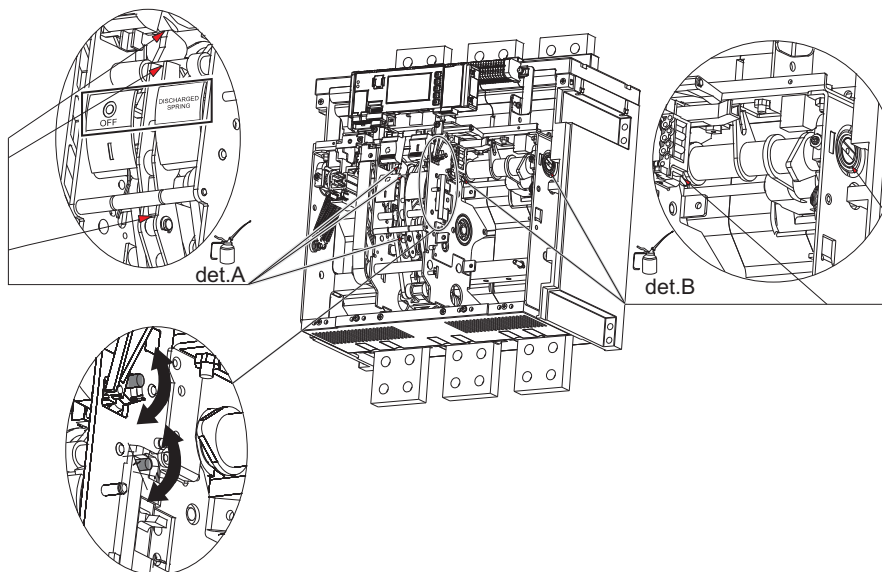

Fig. 27
- Clean (use a cleaning product such as Henkel's 273471 or equivalent if there is a heavy coating of dirt) and lubricate (in the points indicated in figure 27, det. A, as per the First Level) the shafts and opening closing latches with MOBILGREASE 28 (EXXON MOBIL).
- Clean (use a cleaning product such as Henkel's 273471 or equivalent if there is a heavy coating of dirt) and lubricate the operating shaft supports, including those on the sides of the circuit-breaker (see figure 27, det. B) with MOBILGREASE 28 (EXXON MOBIL).